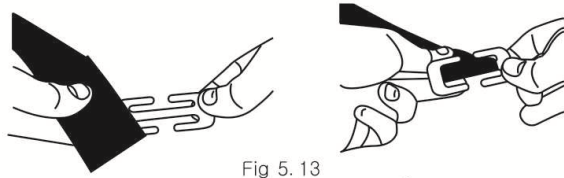

Fig 5.13
5.3.1 Put the harness into harness fixer (As fig 5.13)